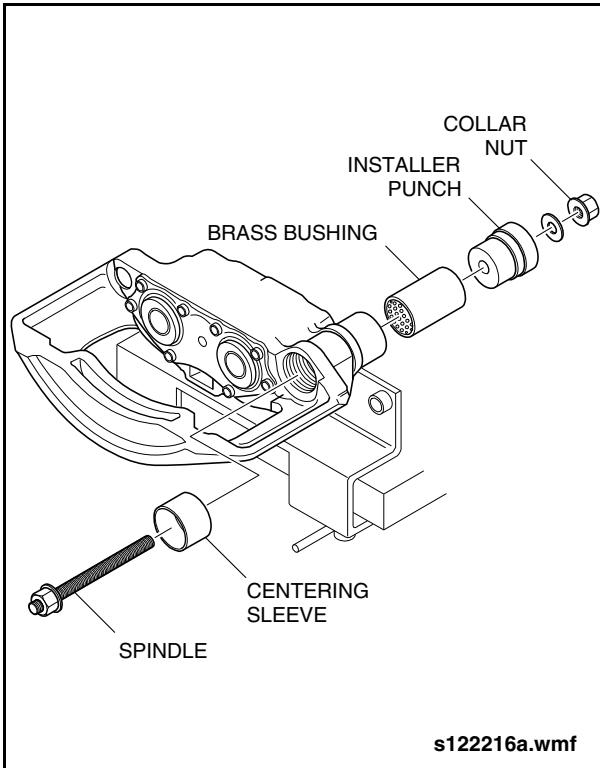

Fig. 1-63: Brass Bushing Installation
- a. Assemble and install the centering sleeve, brass bushing, installer punch, spindle, and collar nut (Items 76, 72, 70, & 71 from special tools list). Ensure that the open side of the centering sleeve is facing away from the caliper. See "Fig. 1-63: Brass Bushing Installation" on page 65.